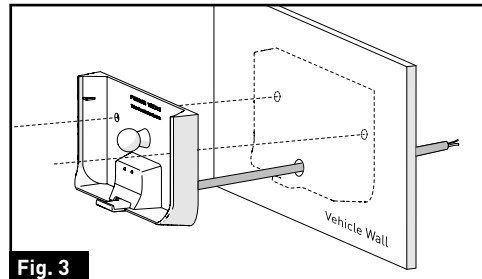

Fig. 3
4. Feed the bare end of the mounting bracket wire into the hole and connect to the supplied camera power cable. (Fig. 3)